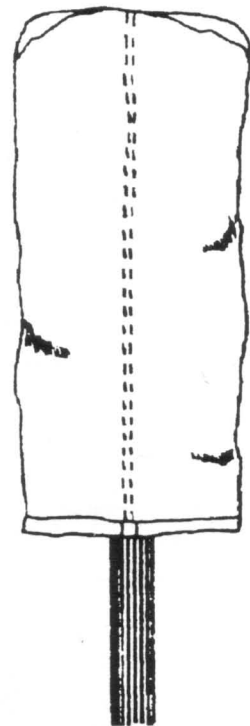

FIG. 3
- 5) At this point, refer to the directions by the canopy manufacturer for flaking and folding the canopy. After flaking and folding it should resemble (FIG. 3). (Be sure the slider is up as far as it will go against the canopy.)